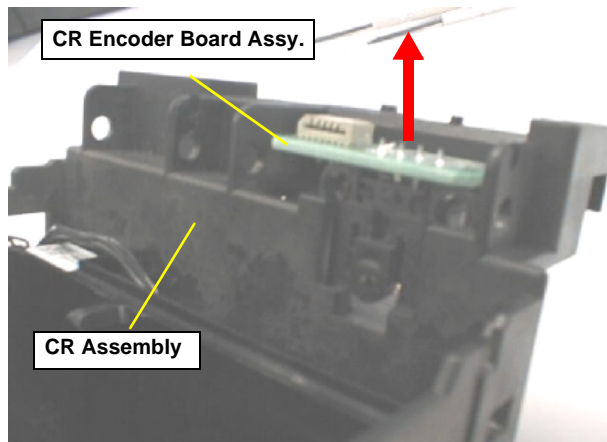

Figure 4-45. Removing the CR Encoder Board Assy.
- 5) Remove the CR Encoder Board Assembly from the CR Frame as Figure 4-45.